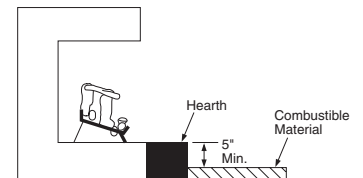

Figure 9 - Minimum Fireplace Clearances Above Combustible Flooring
- If combustible materials are less than 14" to the fireplace, you must install appliance at least 5" above the combustible flooring (See Figure 9).